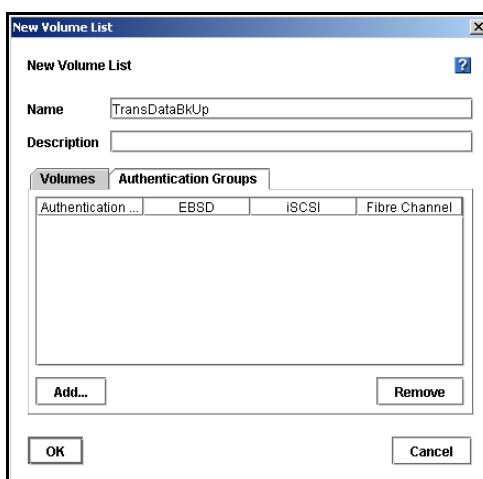

Figure 207. Connecting Authentication Groups to a Volume List
1. Next, select the Authentication Groups tab, shown in Figure 207.